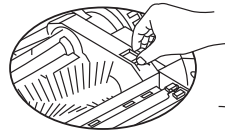

Figure 1
1. Force the locking bar forward and raise the cover using your thumb, then lift the rod of the mid cleaning brush with your left hand. (Refer to Figure 1 and Figure 2)